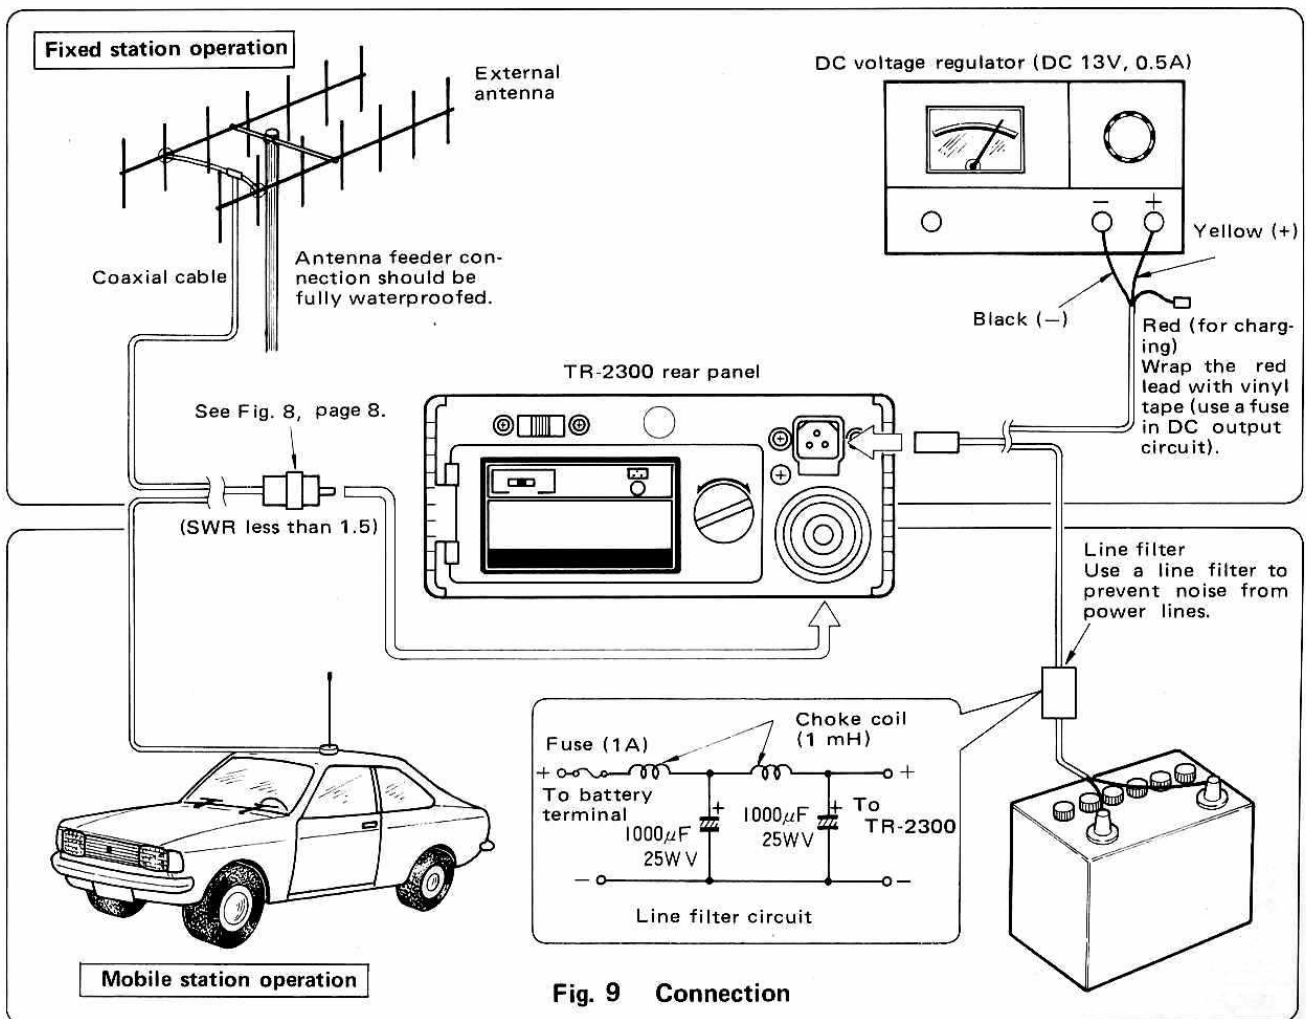

Fig. 9 Connection
Connect an external power supply (DC 13V) with the supplied power cable plug (DC cord) referring to Fig. 9. This terminal is also used to charge Ni-Cd batteries (see page 7).
- ① For fixed station operation, it is recommended that an external power supply be employed, though internal batteries may also be used. The external power supply has an advantage of eliminating the need for checking the power voltage. When using the external power supply, connect it to the unit using the supplied power cord as shown in Fig. 9. The ratings of the external power supply should be DC 13V, 0.5 A or higher. (A fuse should be used in the DC output circuit.)